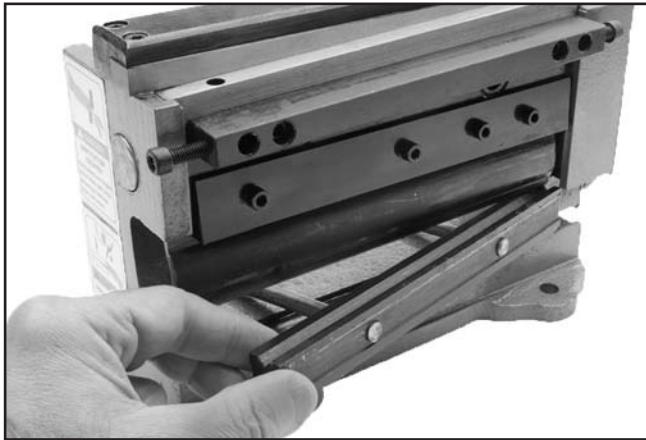

Figure 14. Removing finger receiver position.
3. Lift the finger receiver up and out of the receiver slot in the base (**Figure 14**).